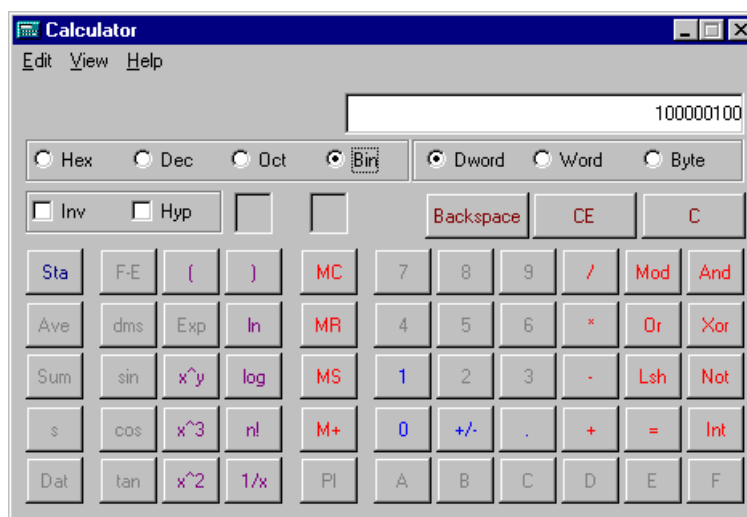

Figure 11-4
2. Change the display view from decimal to binary. The equivalent binary value appears (100000100), as shown in figure 11-4: